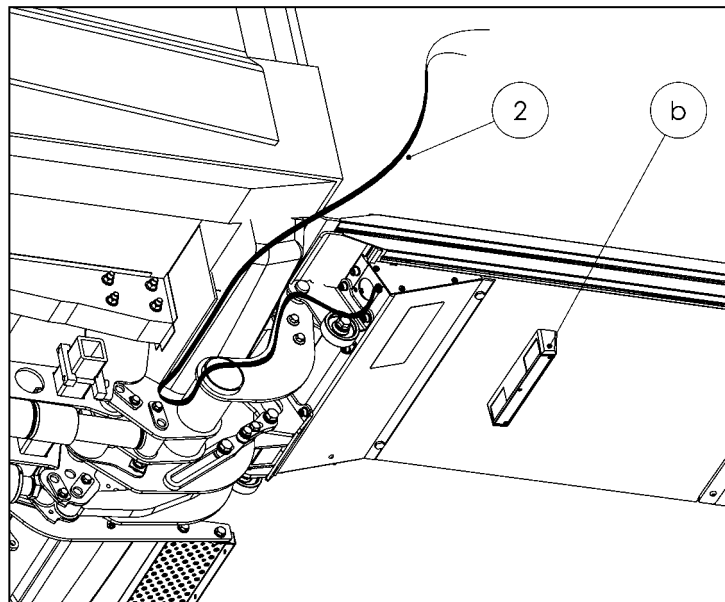

Figure 68
- Route the license plate light cable (2) (cable outlet from platform's aluminum torsion box) along the closing arm (see Fig. 68).